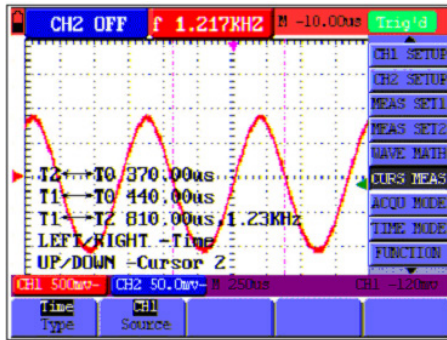

Figure 25: Use the cursor for a time measurement.
- Keep pressing on the **OSC OPTION** key till the **▲/▼ CURSOR T2** is displayed on the screen. Then, adjust the **OSC ▲** or **OSC ▼** and you can find that the dashed line **T2** is moving right and left while the time value of **T1** relative to the **screen middle point position** appears on the screen. You can also observe the absolute time values and frequencies of **T1** and **T2**. Now, you can see a screen that looks like the following figure 25.